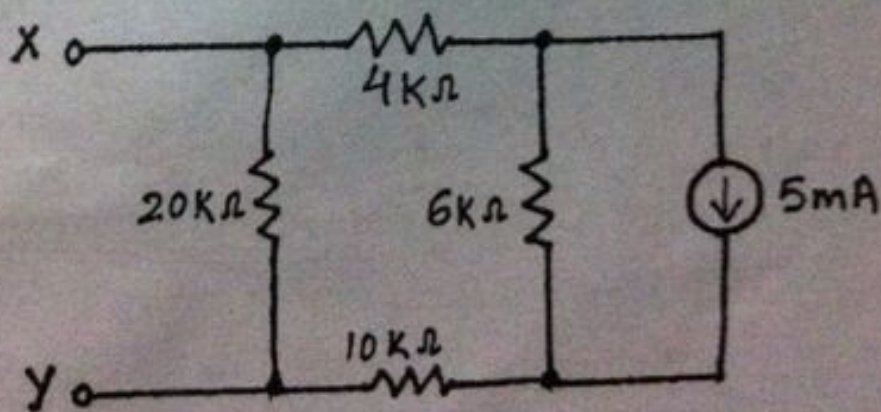

Fig. 4
6. State Thevenin Theorem and find the thevenin equivalent circuit lying to the right of terminals x-y in Fig. 4.